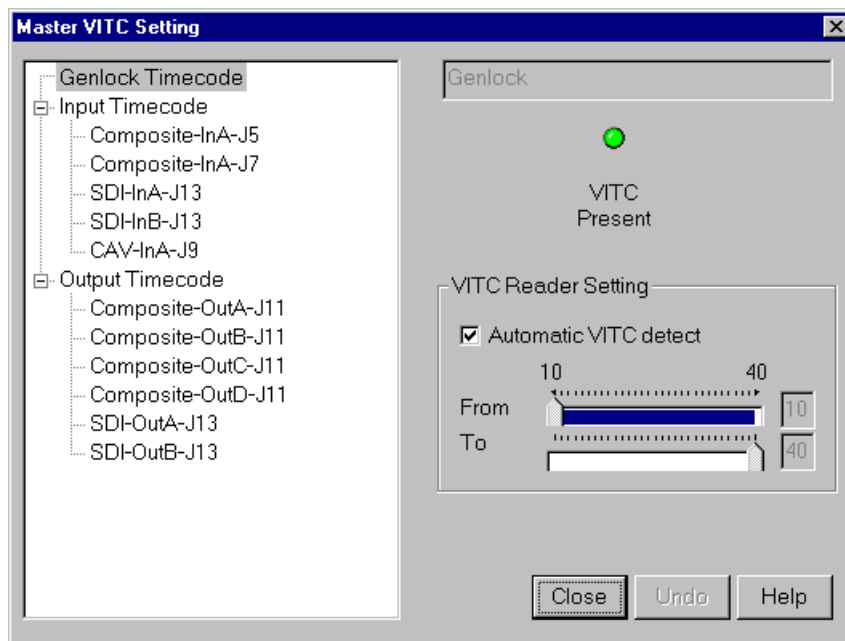

Figure 9. Master Timecode dialog box, genlock settings
1. Choose **Options | Master Timecode** or click the Master Timecode button on the toolbar. The Master VITC Setting dialog box appears (Figure 9).